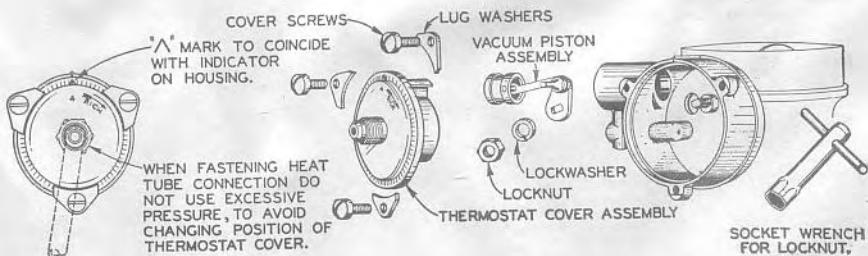

Fig. 17—Exploded View of Automatic Choke Used on 1801.
1. Remove carburetor air cleaner and thermostat cover assembly Fig. 17 and test operation of the choke valve. When closed by hand it should drop open freely without the slightest lag. If it does not drop freely remove and clean the vacuum piston and its cylinder with alcohol or acetone and do the same to choke valve shaft and bearings if necessary. Clean all of the choke passages with compressed air.